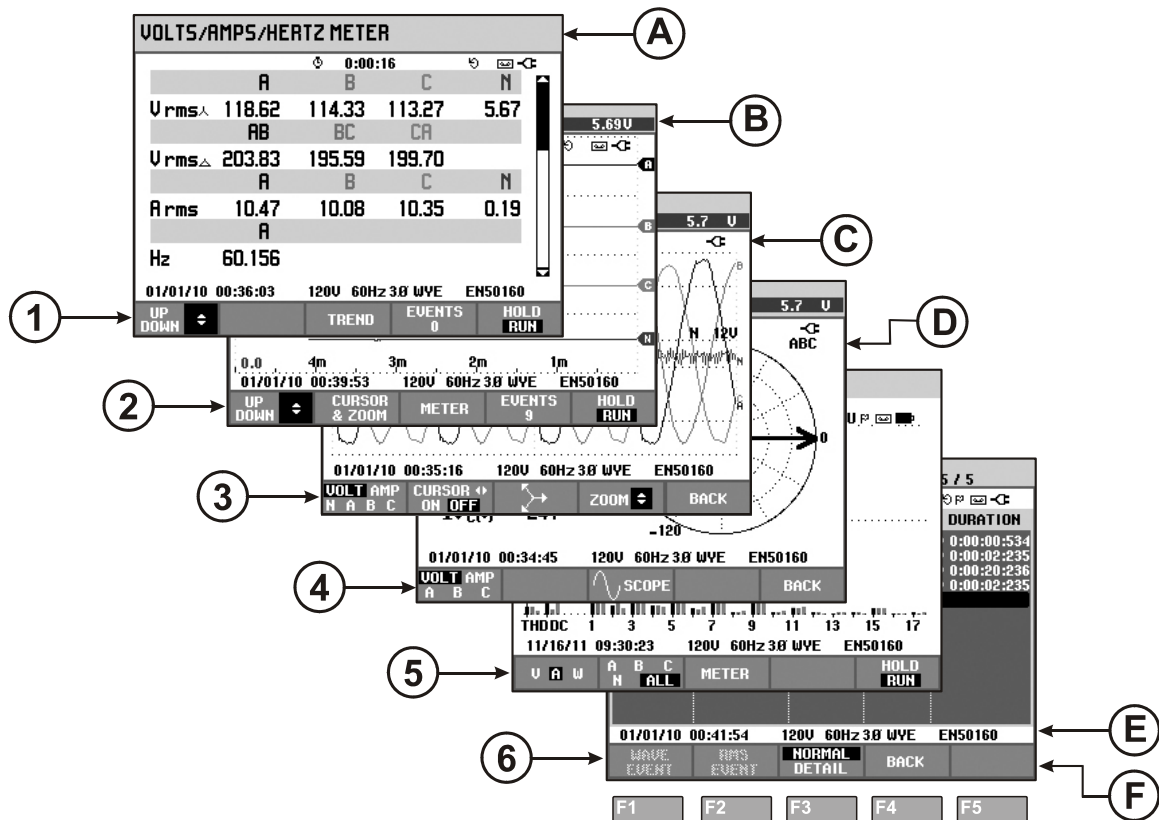

Figure 5-1. Survey of Display Types
Below you will find a brief description of each screen type and its purpose. The measuring mode it is used for is given as well as the manual chapter (Ch.) with detailed information. Bear in mind that the amount of screen information depends on the number of phases and the wiring configuration. Refer to Figure 5-1, item 1 ... 5.
- ① Meter screen: gives an instantaneous overview of a big number of important numerical measuring values. All these values are logged as long as the measurement is on. They are stored in memory when the measurement is stopped. Used for all measurements except Monitor (Ch. 16) and Power Wave (Ch. 19).
- ② Trend screen: this type of screen is related to a Meter screen. Trend shows the course over time of measuring values from the Meter screen. After selection of a measuring mode, the Analyzer starts recording all readings in the Meter screen. Used for all measurements.
- ③ Waveform screen: shows voltage and current waveforms as displayed on an oscilloscope. Channel A (L1) is reference channel and 4 complete cycles are displayed. The nominal voltage and frequency determine the measuring grid size. Used for: Scope Waveform (Ch. 7), Transients (Ch. 18), Power Wave (Ch. 19), and Wave Event in Fluke 435-II/437-II.
- ④ Phasor screen: shows the phase relation between voltages and currents in a vector diagram. The vector of reference channel A (L1) points to the positive horizontal direction. The A (L1) amplitude is also reference for the measuring grid size. Used for: Scope Phasor (Ch. 7) and Unbalance (Ch. 14).
- ⑤ Bar Graph screen: shows the density of each measuring parameter as a percentage by means of a Bar Graph. Used for: Harmonics (Ch. 10), and Power Quality Monitor (Ch. 16).
- ⑥ Events list: lists the events that occurred during the measurement with data such as start date/time, phase and duration. Used for all measurements except Power Wave (Ch. 19).
Refer to Figure 5-1, item A ... F